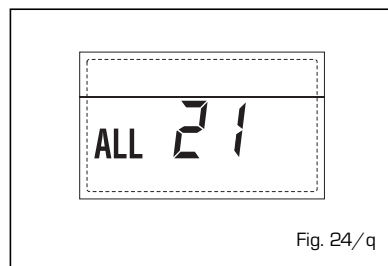

Fig. 24/q
**- SAFETY THERMOSTAT INTERVENTION SECOND MIXED ZONE "ALL 22" (fig. 24/r)**